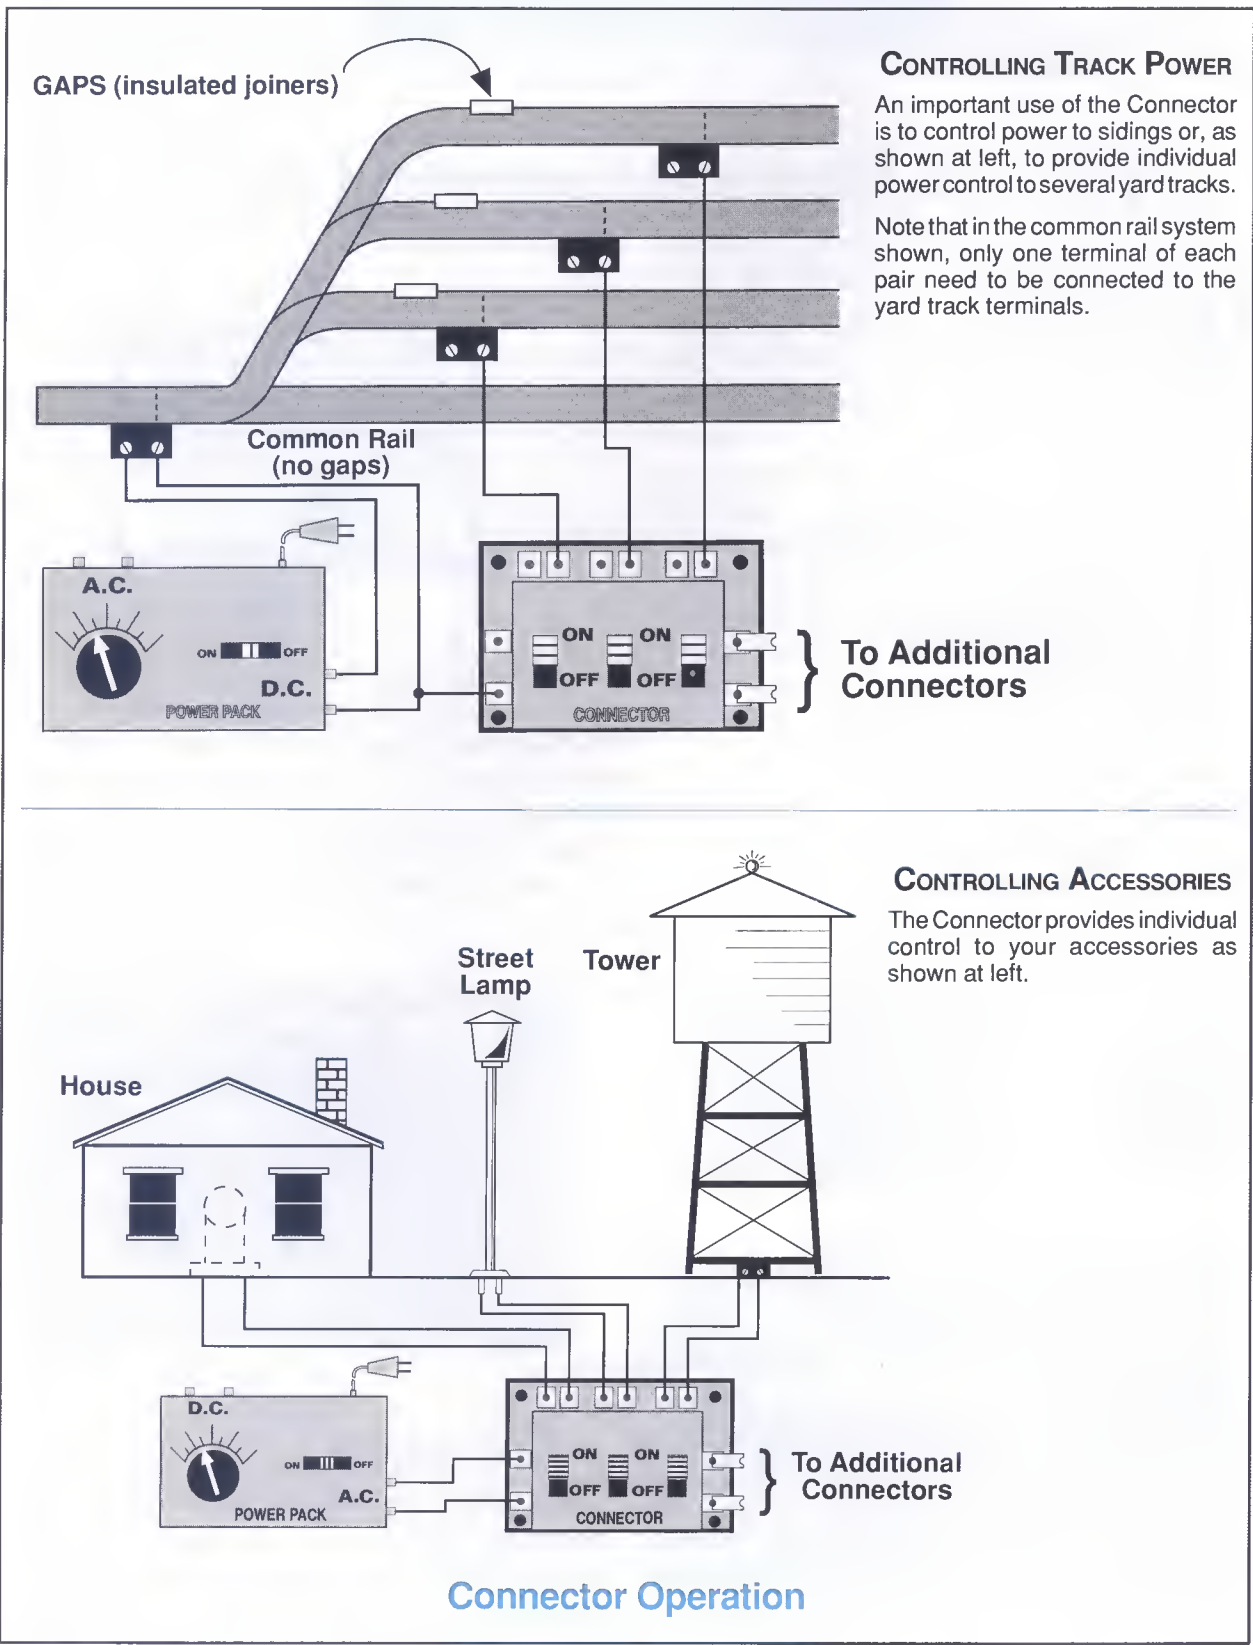

Fig. 2-4
b) **#205 - The Atlas Connector** turns electrical power on or off to track sections or accessories. It is comprised of three SPST (on/off) switches in one convenient package. Any number may be connected together by means of the spades provided. Fig. 2-4 depicts examples of use and wiring.